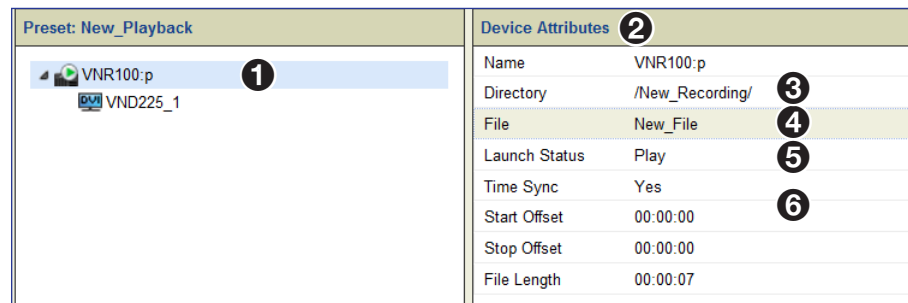

Figure 111. Preset for Playing a Channel
2. In the **Preset** panel, select the player (see figure 111, ①).